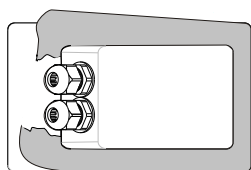

Figure 6
1. Remove the sealing paper (Figure 6). To achieve good adhesive effect, the adhesive face shall be kept clean and dry.